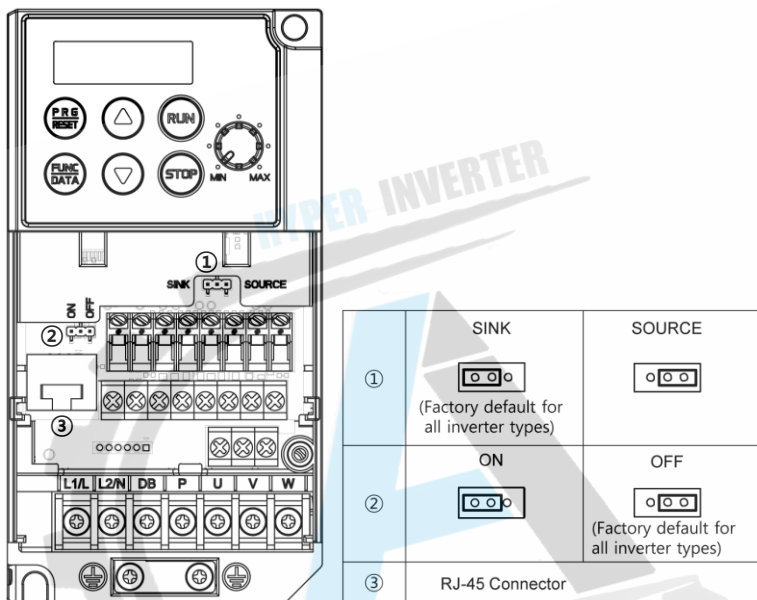

Figure 2.11 Locations of Jumper Switches and RJ-45 Connector
Switching the jumper switches (shown in Figure 2.11) allows you to customize the specifications of the digital I/O terminals and the RS-485 communication terminating resistor.
① SW10	SINK/SOURCE switch for digital input terminals <ul style="list-style-type: none"><li>• To use digital input terminals [X1] to [X3], [FWD] and [REV] in the SINK mode, set a jumper in the sink position, to use them in the SOURCE mode, set a jumper in the source position. (See Figure 2.11.)</li><li>• To switch between SINK and SOURCE modes, use a mini needle-nose pliers or the similar tool to change the mounting position of the jumper.</li></ul>
② SW9	Terminating resistor ON/OFF switch for RS-485 communication <ul style="list-style-type: none"><li>• To connect an optional remote keypad, set a jumper in the OFF position (factory default).</li><li>• If the inverter is connected to the RS-485 communications network as a terminating device, set a jumper in the ON position.</li><li>• To switch the terminating resistor ON and OFF, use a mini needle-nose pliers or the similar tool to change the mounting position of the jumper.</li></ul>
Figure 2.11 shows the locations of jumper switches and the RJ-45 connector.